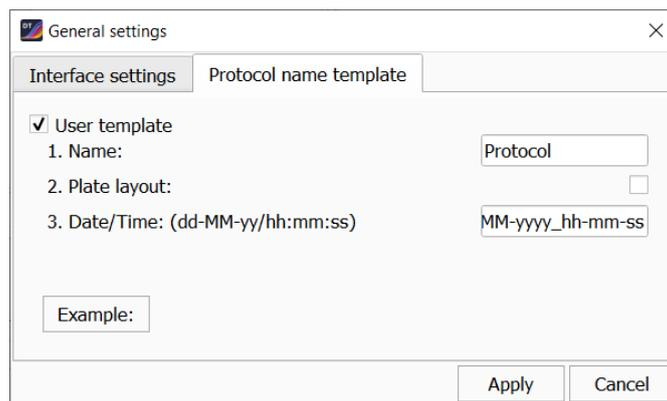

Figure 108 – Configuring the protocol name template
3. Select the **User template** checkbox (fig. 108) and form the desired template using the proposed parameters.